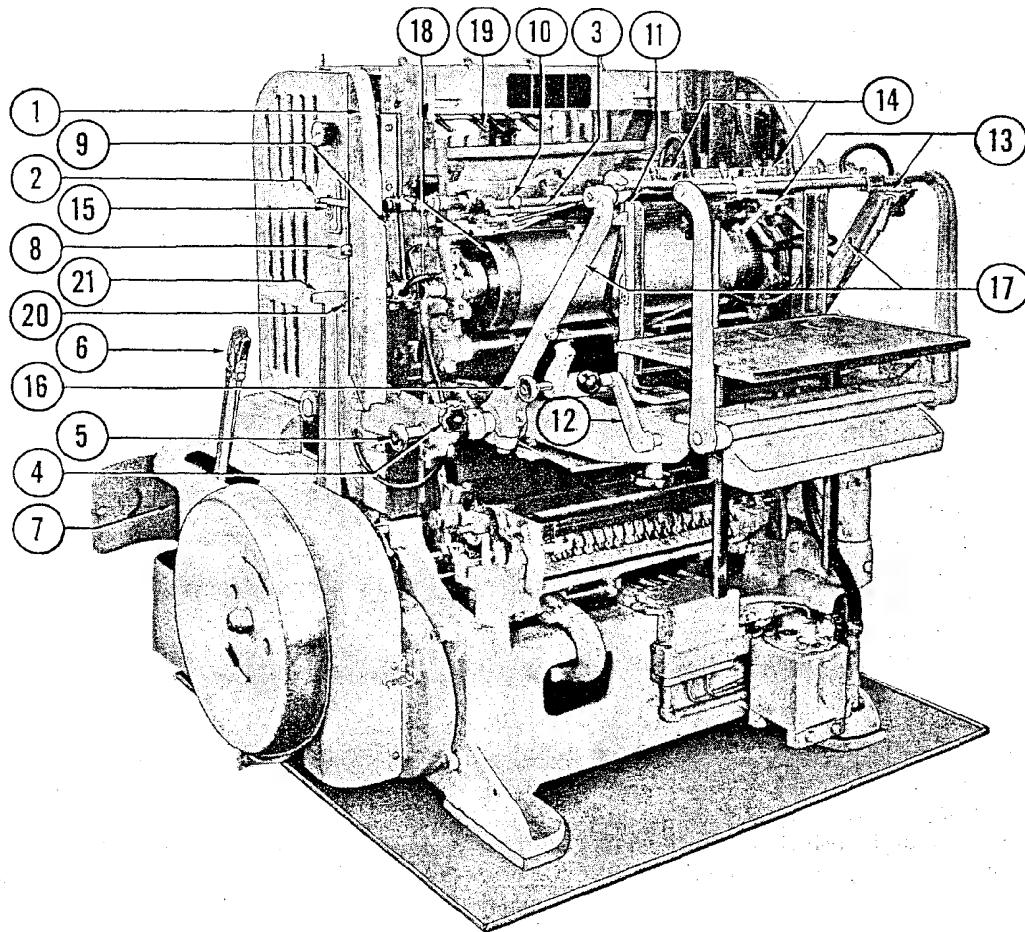

Figure 11—Starting Press
a. PROCEDURE FOR STARTING PRESS. (See figure 11:) Before starting press, turn flywheel manually one complete cycle to be sure that there is clearance for all moving parts.
(1) Make certain power is off by opening left end cylinder guard (1), thereby tripping the "STOP" (red) motor control push-button (2).
(2) Attach transfer table (3). (Refer to paragraph 1, page 14).
(3) Lock feeder (4) in operating position (refer to paragraph 7, page 14) and then pull feeder control air valve handle (5) to its out position.
(4) Release belt-tightener lever (6) (extreme left position).
(5) Install 3,000 I.P.H. (smallest) change pulley (7). (Refer to paragraph 6, page 21).
(6) Turn automatic stop control knob (8) so that red button is in its down position.
(7) Close the left end cylinder guard (1).
(8) Check that side-guide shifting cam (9) is positioned for left side register and then set left side guide (10) at  $9\frac{1}{2}$ . (Refer to paragraph 2, page 14).
(9) Set left side front pile guide (11) so that "0" alignment marking is at  $9\frac{1}{2}$ . (Refer to paragraph 1, page 12). Position opposite pile guide to suit size of sheet to be used for check-run (11" x 17" medium weight stock is recommended).
(10) Lower feeder pile table by turning crank (12) and then place a few sheets of stock on table.